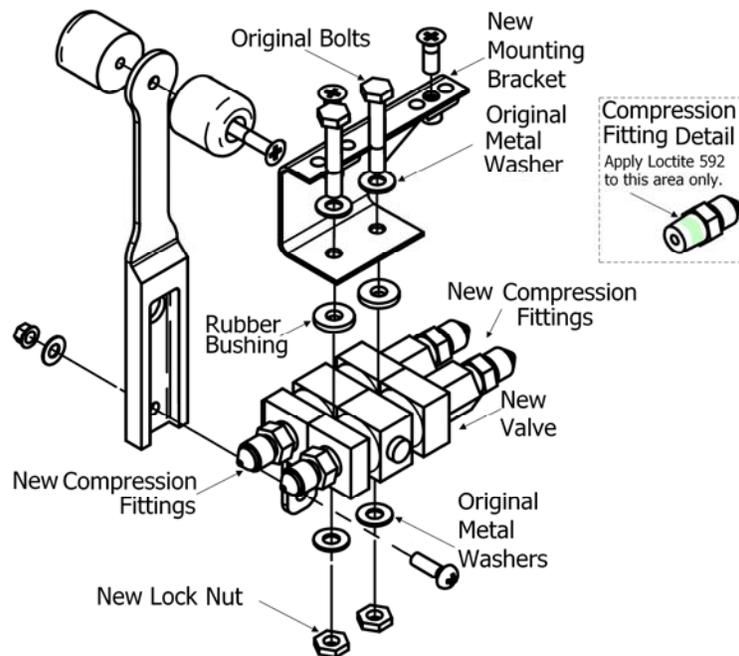

Figure 32-30 Parking Brake Valve Parts Assembly
2. Install parking brake assembly using original bolt, metal washers and rubber bushings with new lock nut, 2 places. For proper part assembly order, see Figure 32-30.